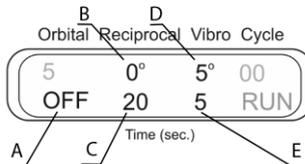
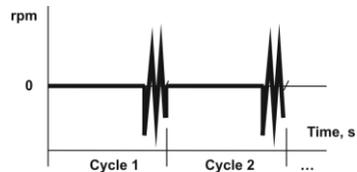

Figure 10
Figure 11
6.9.4 **3D vibro + pause** (fig. 10). Turn off 3D orbital motion by setting time of 3D orbital motion to zero (**A**, OFF). Set the angle of 3D reciprocal type motion to zero (**B**). Set the time for 3D reciprocal motion (**C**, 1–250 s), this is the duration of the pause. Set the turning angle (**D**, 0–5°) and time (**E**, 1–5 s) for 3D vibro type motion. Figure 11 shows 3D vibro motion and pause run one after another in cycles. Figure 11 shows 3D vibro motion and pause run one after another in cycles.